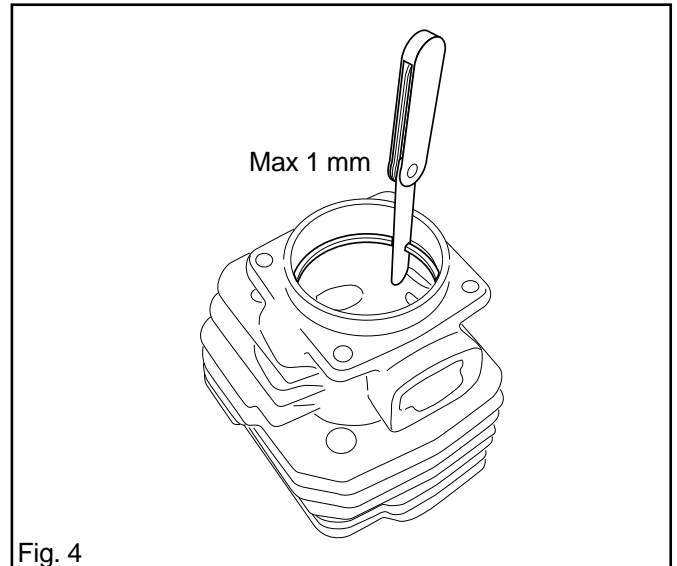

Fig. 4
- Measure piston ring wear by placing it in the bottom of the cylinder bore and measuring the gap. See fig. 4. The piston ring gap should not exceed 1 mm.